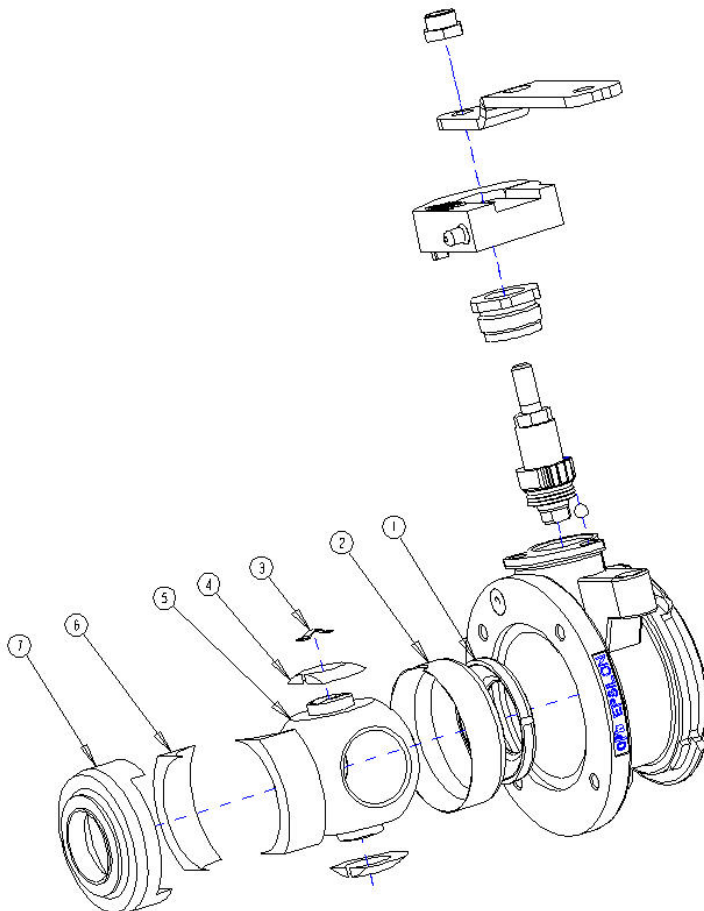

Figure 1
1. With ball seal (see balloon 1) retained inside of the body, slide the front cavity filler in (see balloon 2) with stem cutout vertical opening up to the hole through the stem boss. See Figure 1 for orientation of cavity filler and notch.
5. Insert the ball retainer (see balloon 7; see Figure 1 for orientation) last with tabs at the top and bottom aligned with the flats on the top and bottom of the ball. The side fillers should sit within the gaps of the tabs on the left and right of the ball retainer while the tabs of the ball retainer slide over the flats on the ball.